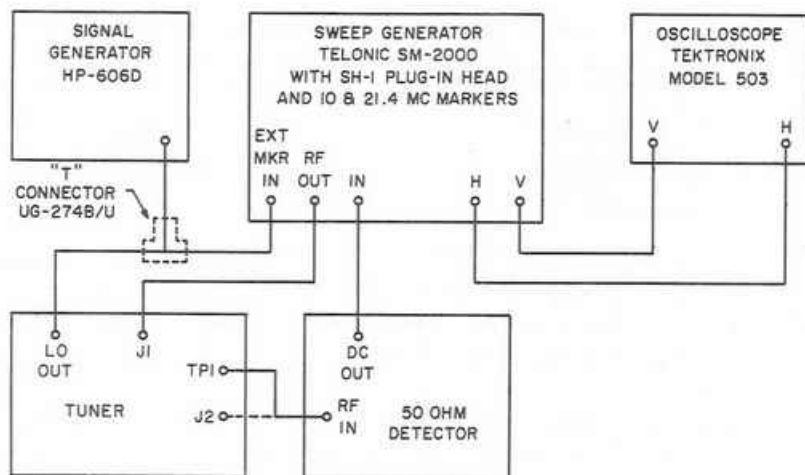

Figure 5-7. Tuner Alignment Test Set-Up
- (1) SH-221-3 Tuner: Connect the test equipment as illustrated in Figure 5-7.
- (2) PR-21.4-3 Preampfier:
- a. Connect the test equipment as shown in Figure 5-7 with the RF output of the sweep generator connected to preampfier input jack J1. The LO OUTPUT from the tuner is not used and therefore the output of the 606D signal generator is connected directly to the EXT. MKR. connector on the sweep generator.